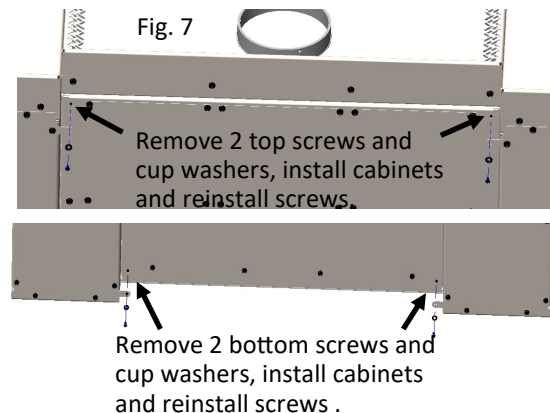

Fig. 7
- Remove top and bottom screws and cup washers of back sides of stove. See Fig. 7.
- Set right and left side cabinets tight in against stove with rear tabs lining up with screw holes where you removed the screws in the back and install screws and cup washers you just removed. See Fig. 7.